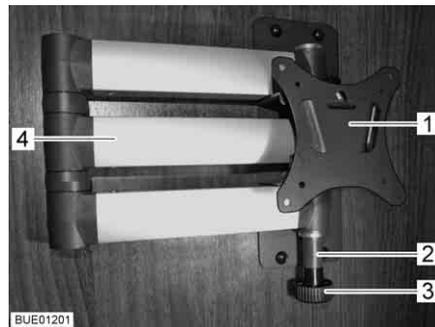

Fig. 86 Holder with jointed arm
- Pull the release knob (Fig. 86,3). The jointed arm (Fig. 86,4) is unlocked.
- Turn the flat screen back into the original position until the holder (Fig. 86,1) engages in the lock (Fig. 86,2).